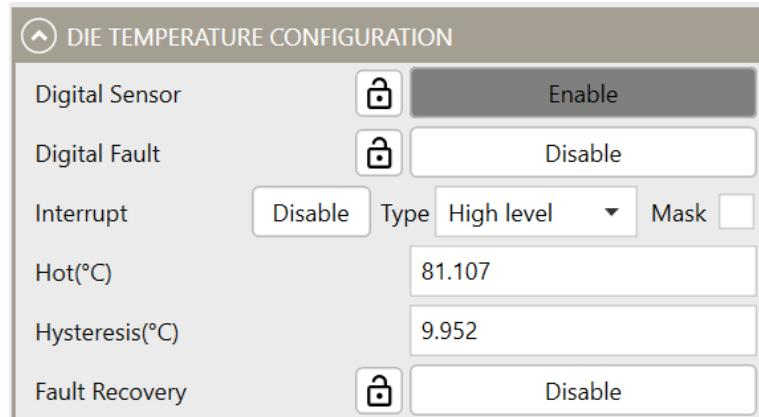

Figure 23: Die Temperature Configuration
19. Configure the die temperature parameters (see Figure 23).